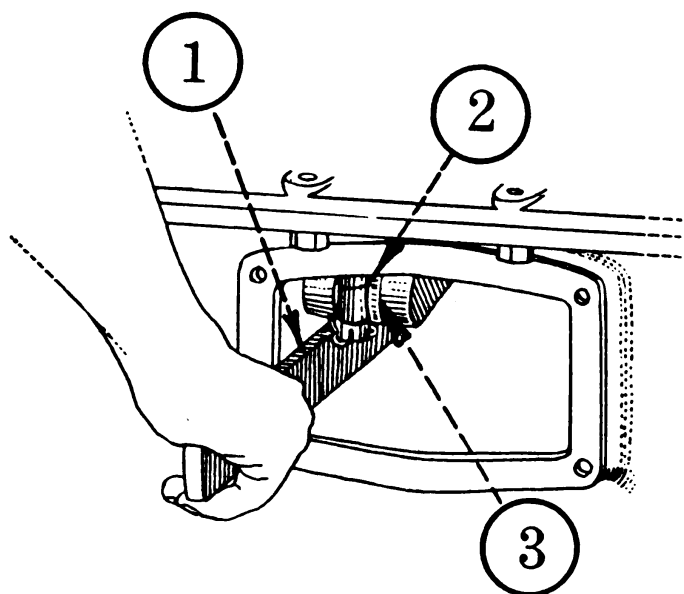

Fig. 17. Testing Play in Connecting Rod Bearings
By removing the hand hole covers on both sides of the oil pan, the connecting rod bearings can be examined for wear. Crank the engine slowly so that the connecting rod to be tested is on the compression stroke as shown in Fig. 17. By prying under the bearing cap (3) and the bearing bolt (2) with a bar (1), the extent of looseness may be determined by feel.